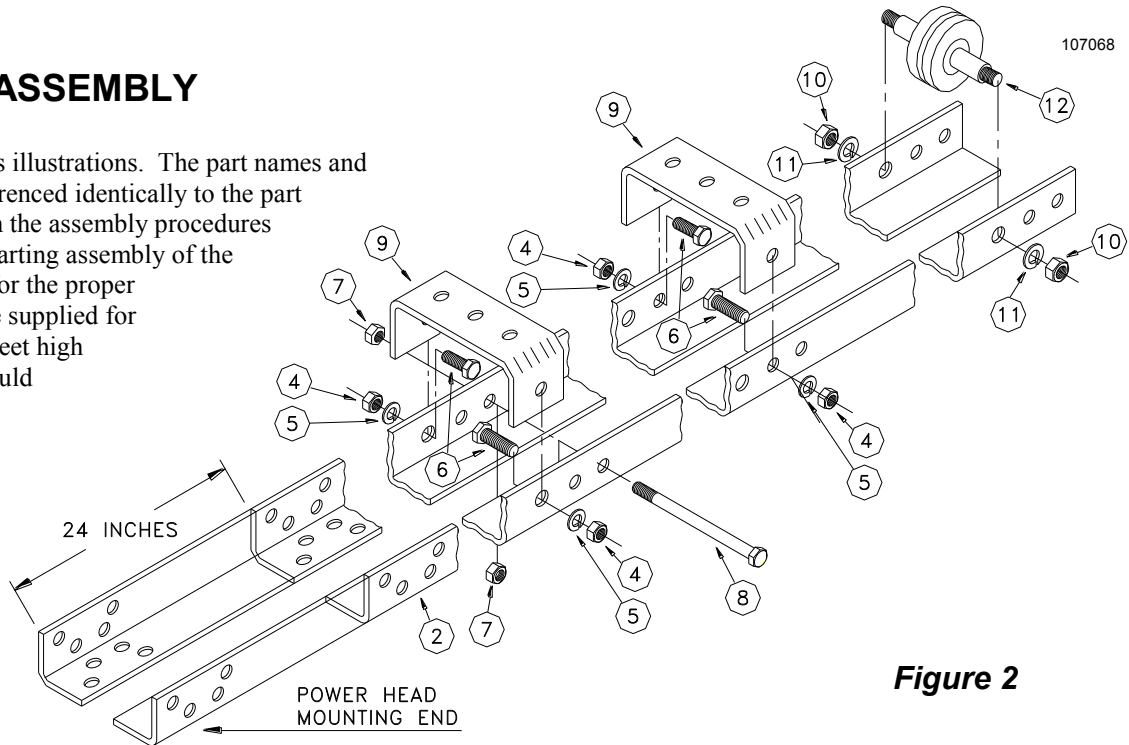

Figure 2
Refer to Figure 1 parts illustrations. The part names and item numbers are referenced identically to the part names and numbers in the assembly procedures that follow. Before starting assembly of the operator track check for the proper length. The tracks are supplied for 8 Feet and 10/12/14 Feet high doors. The tracks should be three (3) feet longer than the door height. If the tracks supplied with the operator are more than three (3) feet longer than the door height it will be necessary to cut off two (2) feet (or 4 feet for 10 FT doors) from the power head mounting end as shown in Figure 2.
CAUTION: WHEN NECESSARY TO CUT THE TRACK ENSURE THE ENDS ARE LINED UP AS IN FIGURE 2.
- 1) Assemble the operator track by assembling the items as shown in Figure 2.